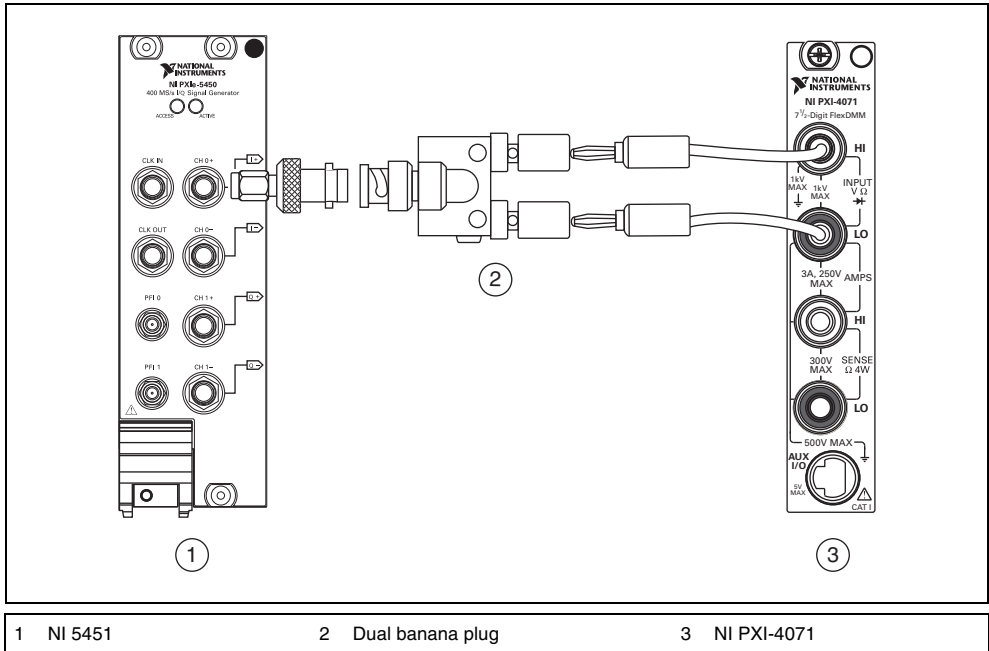

Figure 4. DC Voltage Common Mode Offset Accuracy Verification Connection (CH 0)
1. Connect the NI 5451 CH 0+ output to the positive input of the DMM and the cable shield ground of the NI 5451 CH 0+ output to the negative input of the DMM, as shown in Figure 4.